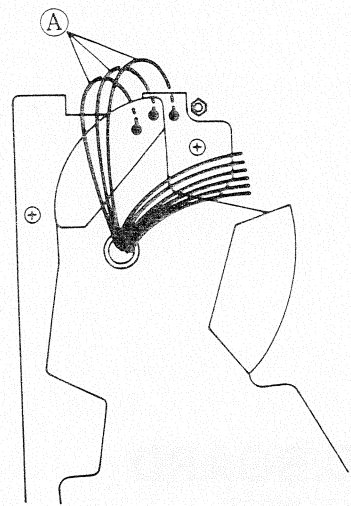

Fig. 6
1. Remove the bottom plate of the unit and unsolder the three leads (A) . (See Fig. 6)
5. Connect the three leads (A) in Fig. 6 to the printed circuit board.